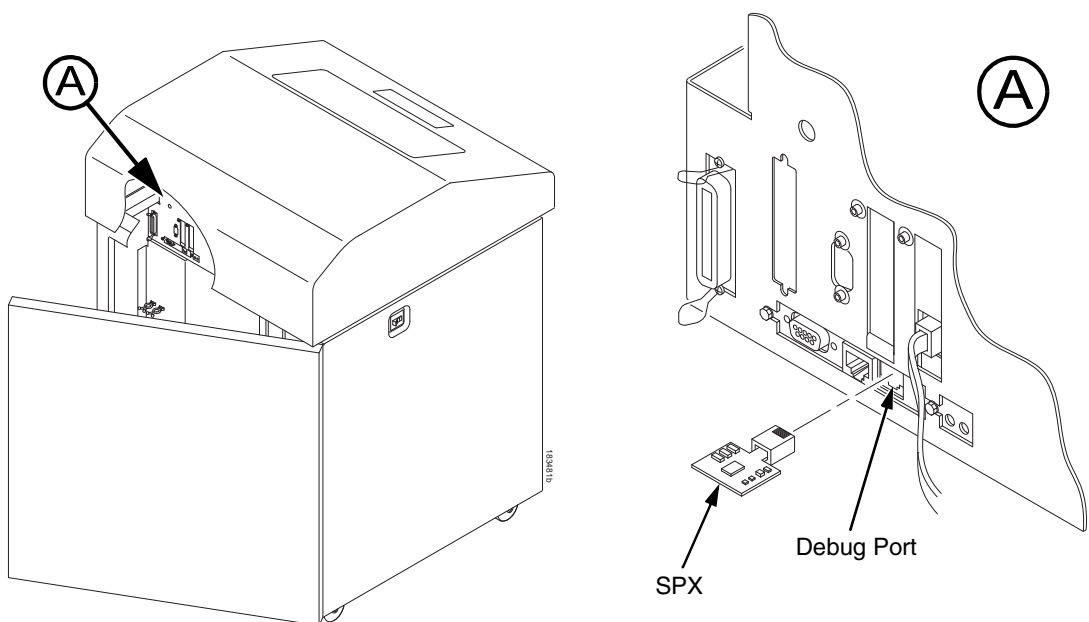

Figure 16. Inserting the SPX into the Debug Port
3. Insert the SPX into the debug port, in as shown in Figure 16 on page 264.